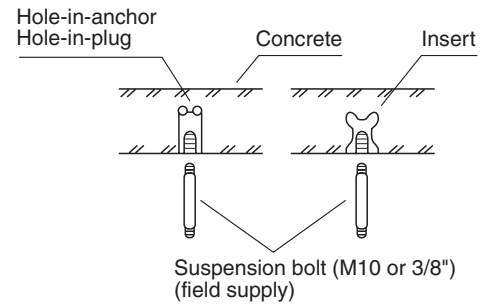

Fig. 1-103
- Insert suspension bolts as shown in Fig. 1-103 or
- (2) Screw in the suspension bolts allowing them to protrude from the ceiling as shown in Fig. 1-103. (Cut the ceiling material, if necessary.)